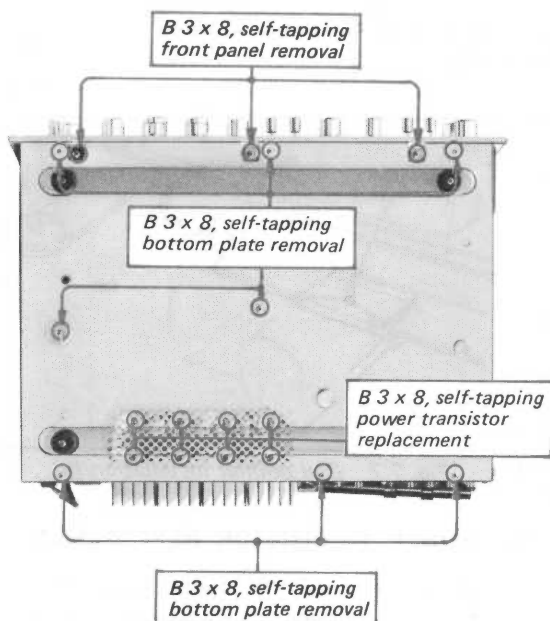
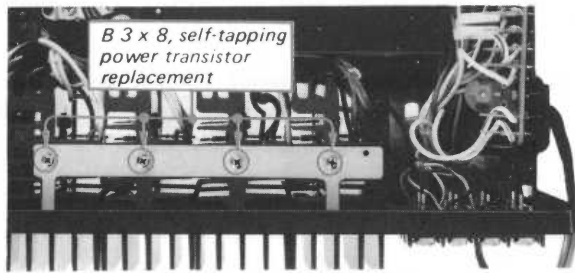

Fig. 2-1. Bottom plate and front panel removal
Fig. 2-8. Power transistor replacement
Remove the eight self-tapping screws shown in Fig. 2-1. This frees the bottom plate.
2. Remove the three self-tapping screws shown in Fig. 2-1.
1. Remove the twelve self-tapping screws from heat sink brackets (eight at rear bottom and four rear top) as shown in Fig. 2-1 and Fig. 2-8.